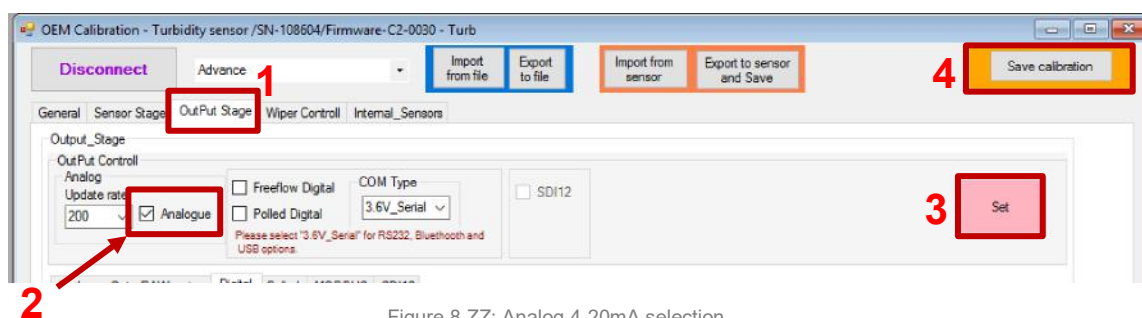

Figure 8.ZZ: Analog 4-20mA selection
- Select “OutPut Stage” option (Figure 8.ZZ: #1).